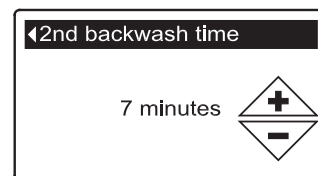

FIG. 131
- 8c. **Second backwash time:** Press the UP (▲) or DOWN (▼) buttons to change the second backwash time. Hold the button down to rapidly advance. The time can be set from 1 to 30 minutes (See Figure 131).